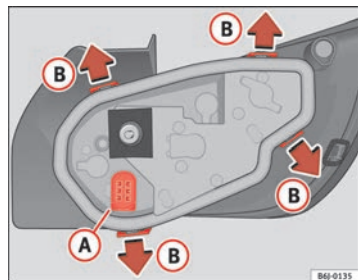

Fig. 145 Changing bulbs on rear lights
- Remove the lamp holder, separating it from the casing. To do this, press tabs (B) in the direction of the arrows ⇒ fig. 145.